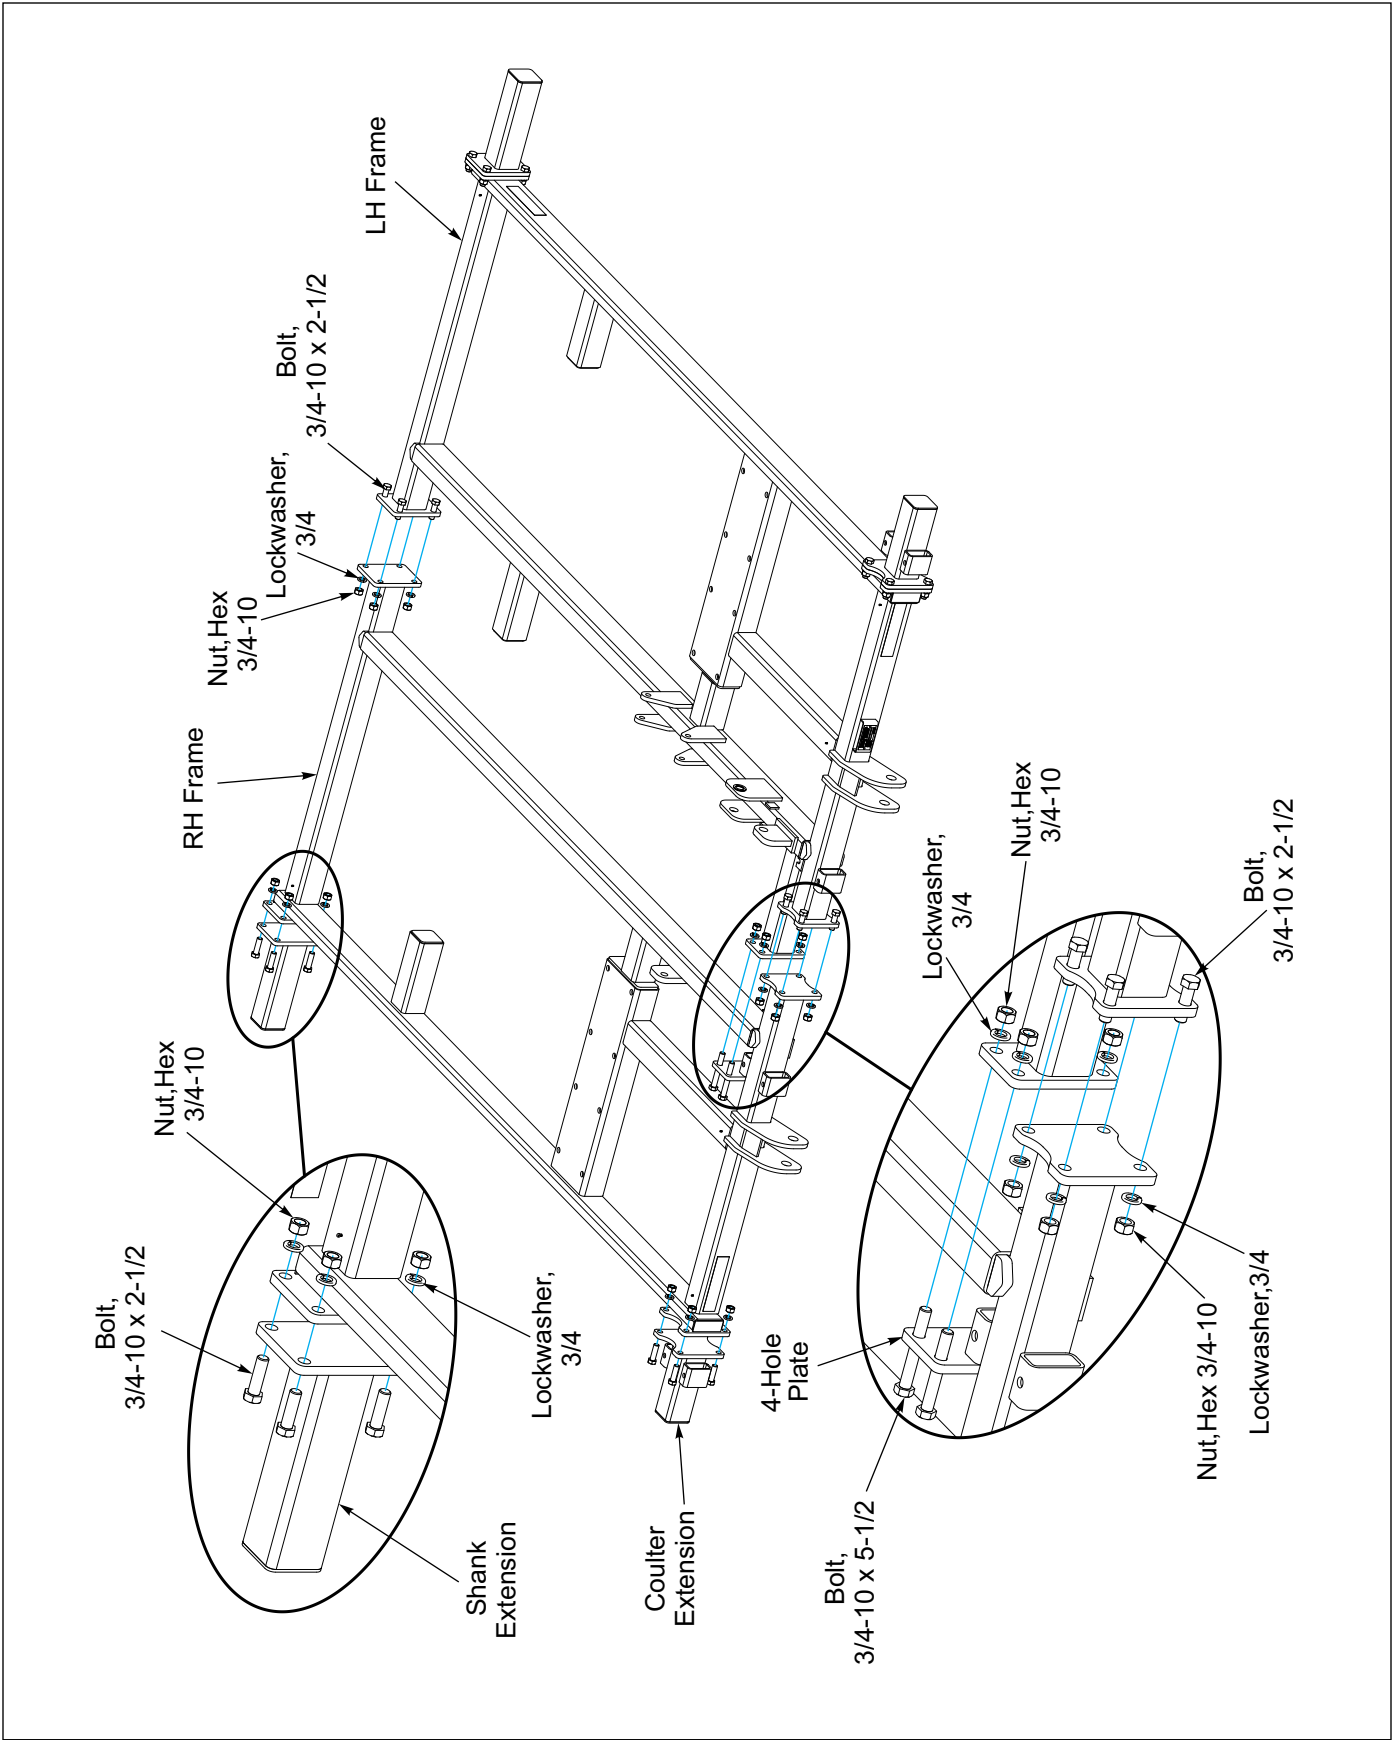

Figure 2-2: Frame 7 and 9 Shank
2. Attach the RH and LH Frames together with 3/4-10 x 2-1/2 Bolts, Lockwashers and Hex Nuts. Assemble the front LH Frame Stand off to the RH Frame with 4-Hole Plate and 3/4-10 x 5-1/2 Bolts, Lockwashers and Hex Nuts. **See Figures 2-2 and 2-3.**